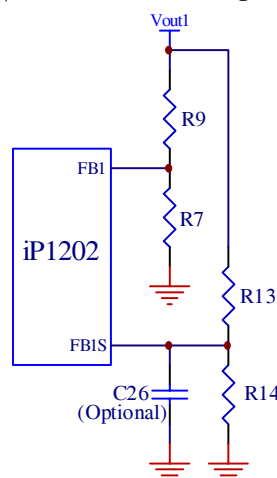

Fig. 17: Typical scheme for output voltage setting
Both outputs of the iP1202 will shut down if either one of the outputs experiences a voltage in the range of 115% of V_{OUT} . The overvoltage sense pins FB1s and FB2s are connected to the output through voltage dividers, R_{13} and R_{14} (Fig. 17), and the trip setpoints are programmed according to equation (1). Separate overvoltage sense pins FB1s and FB2s are provided to protect the power supply output if for some reason the main feedback loop is lost (for instance, loss of feedback resistors). An optional 100pF capacitor (C26) is used for delay and filtering purposes. If this redundancy is not required and if Type II control loop compensation scheme is utilized, FB1s and FB2s pins can be connected to FB1 and FB2 pins respectively.
When selecting output capacitors, it is important to consider the overshoot performance of the power supply. If the amount of capacitance is not adequate, then, when unloading the output, the magnitude of the overshoot due to stored inductor energy, and depending on the speed of the response of the control loop, can exceed the overvoltage trip threshold of the iP1202 and can cause undesirable shutdown of the output. The magnitude of the overshoot should be kept below 1.125V_{OUT}. To prevent the overshoot from tripping the output a delay can be added by installing capacitor C26 as shown in Fig.17.